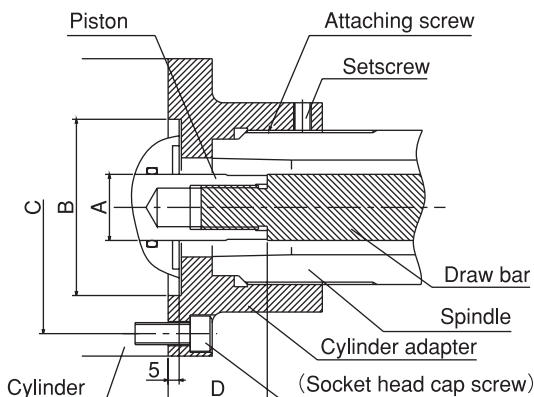

Fig. 8 Cylinder adapter attaching part
- Bring the cylinder as close to the lathe spindle support as possible. The attaching method of the cylinder adapter and the measuring method of run-out are illustrated in the drawings below. (Fig. 8, Table 9)